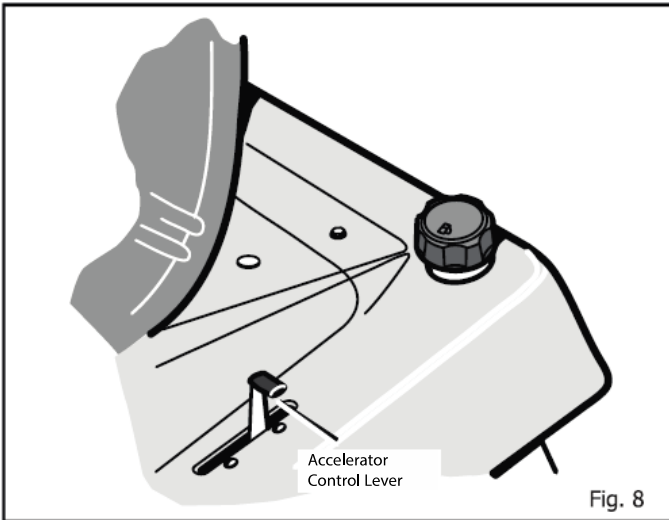

Fig. 8
2. Move the accelerator control lever to the SLOW position (Figure 8).